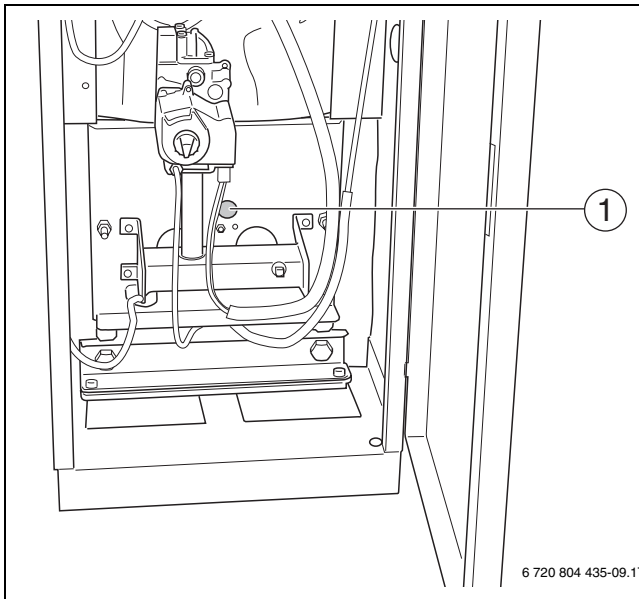
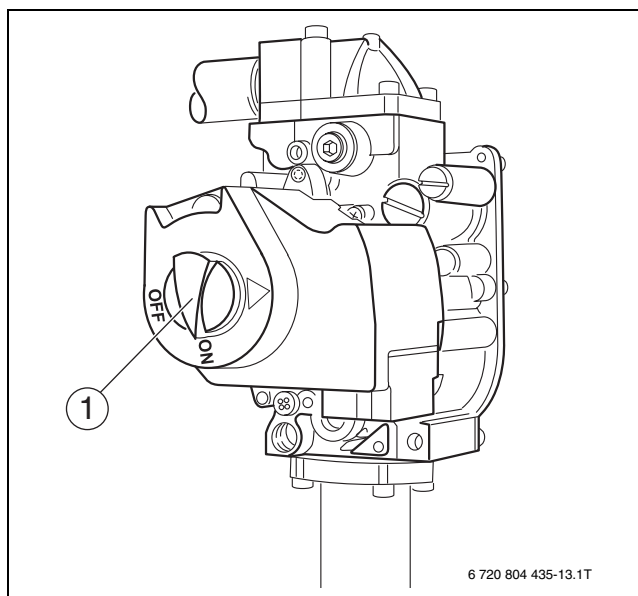

Fig. 9 GC124 II
Fig. 13 Gas valve
- ▶ Observe main burner flame through the sight glass (→ figure 9, page 7) in the burner plate. The flame must show a steady and stable body and generally be of bluish color. If the main burner flame meets the requirements, continue with the next step. If the main burner flame is weak, yellow, or goes out, turn the ON/OFF knob (→ figure 13, page 8) on the gas valve clockwise to OFF. Close the gas shut-off and disconnect the heating system from the main power source and contact the customer service technician or the gas company.